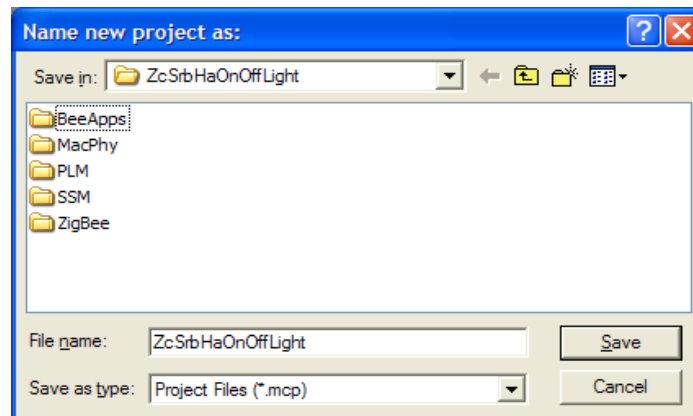

Figure 3-16. CodeWarrior Name New Project Window
6. Click on the BeeKit .xml file to be imported and select Open. The Open window is replaced by a Save window in the same directory. Type in the name for the CodeWarrior project file without an extension. This example uses the same name as the .xml file as shown in Figure 3-16. Click the Save button.